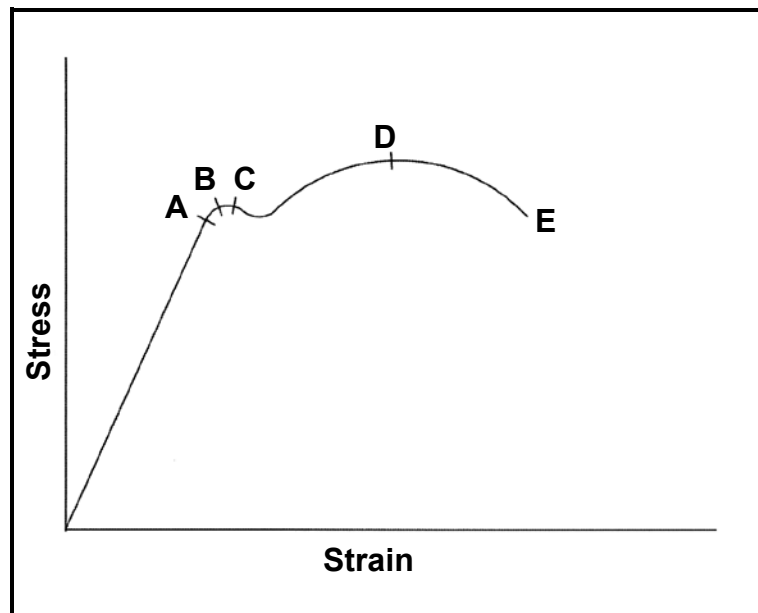

FIGURE 7.3
7.4 What does point D represent in FIGURE 7.3?